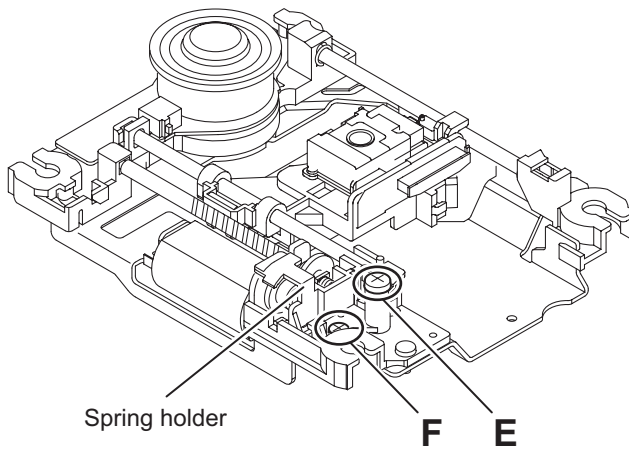

Fig.8
- (2) Remove the screw **E** and **F** attaching the spring holder. (See Fig.8)